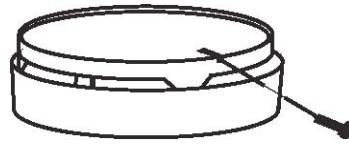

Figure 3: Tamper Resistant Locking Pin
- 6.7 To make your carbon monoxide alarm tamper resistant, a locking pin has been provided in the bag with the screws and anchors. Using this pin will deter children and others from removing the alarm from the mounting plate. To use the pin insert it into the hole in the side of the alarm after the alarm has been installed on the mounting plate (See Figure 3). Note the tamper resist pin will have to be removed in order to
- 8.2. To clean your alarm, remove it from the mounting bracket as outlined in Figure 2 Step D: Installation/Removal. IF TAMPER RESISTANT PIN HAS BEEN USED, REFER TO STEP 6.7 UNDER INSTALLATION INSTRUCTIONS FOR REMOVAL INSTRUCTIONS. (See Figure 3)
NOTE: IF TAMPER RESISTANT PIN HAS BEEN USED, REFER TO STEP 6.7 UNDER INSTALLATION INSTRUCTIONS FOR REMOVAL INSTRUCTIONS. (See Figure 3)